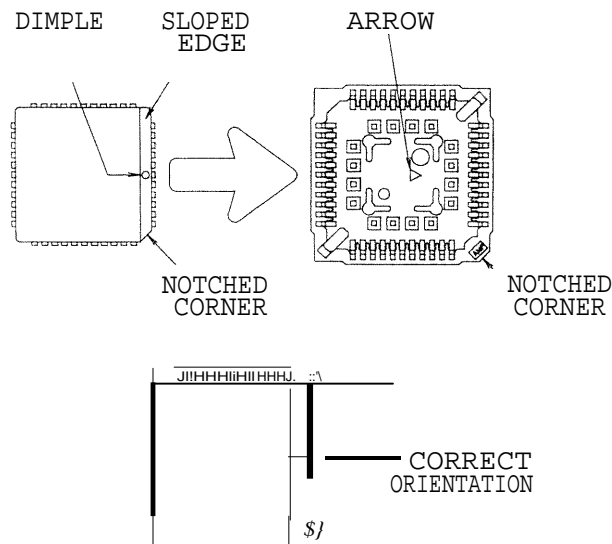

Figure 8-6 The FPIB PROCESSOR must be installed with the correct orientation.
- 4) Position the new FPIB PROCESSOR into the socket of the FPIB, paying close attention to orientation (see Figure 8-6).